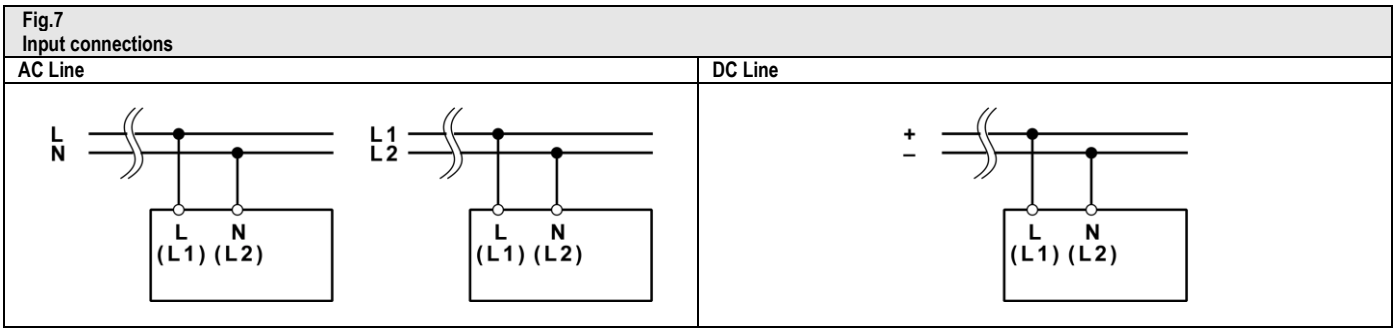

Fig.8 Environment
<p>2) Installation: use DIN-rails according to EN60715. Installation should be made vertically (see Fig.4). For better device stability fix the rail to the wall close to the point where the device is to be mounted. In order to guarantee sufficient convection, we recommend observing a minimum distance to other modules (see Fig.3). The device is provided with a thermal protection; a limited air flow can cause the thermal protection tripping. The SMPS automatically restarts after cooling. To get normal operation reduce the temperature of the air surrounding the power supply, increase the ventilation or reduce the load (see Fig.8).</p>
<p>9) Output protection: the device is protected against overload (OL) / short circuit (SC) / overvoltage (OV) / overtemperature (OT). OL and SC: are controlled by a hiccup mode auto-reset protection with the following behaviour. OL behaviour: Max. OL = $I_n \times 1.5$ with constant output voltage. If the current is $\geq I_n \times 1.5$ the unit enters the OL protection and starts an ON/OFF cycle (hiccup mode). SC behaviour: the device supplies the indicated short circuit peak current for 60ms if the output current exceeds $I_n \times 1.5$ the device enters into a controlled ON/OFF cycles (hiccup mode). The output voltage drops to a voltage value depending on the impedance of the failed load circuit. Output OV circuit protection: the output is protected against potential OV due to internal malfunction or coming from the load for $U_{out} \geq U_{nom} \times 1.2 - 1.3$, depending on the model. OT protection: turns off the device if the internal temperature exceeds a safe limit. The device restarts automatically after cooling down. To recover to normal operation reduce air temperature surrounding the power supply, increase cooling or reduce load (see Fig.8).</p>